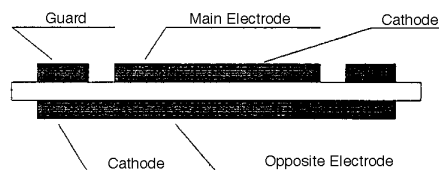

Figure 2
6.2 Place the specimens in the electrode system as shown in Figure 2.